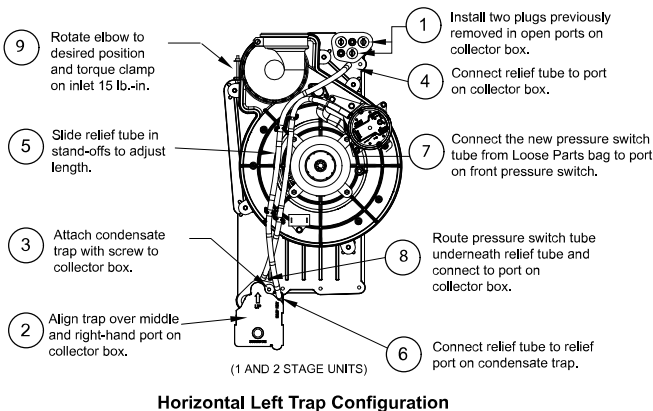

Fig. 11 – Horizontal Left Configuration
When the furnace is installed in the horizontal right position, the condensate trap will be initially located at the bottom of the collector box, as received from the factory. See the top image in Fig. 10. When the furnace is installed in the horizontal left position, the condensate trap will be initially located at the top of the collector box, as received from the factory. See the top image in Fig. 11. In both cases the trap must be repositioned on the collector box for proper condensate drainage. See the bottom images in Fig. 10 and Fig. 11.
- Fig. 11 shows the condensate trap and tubing before and after relocation in the horizontal left position.